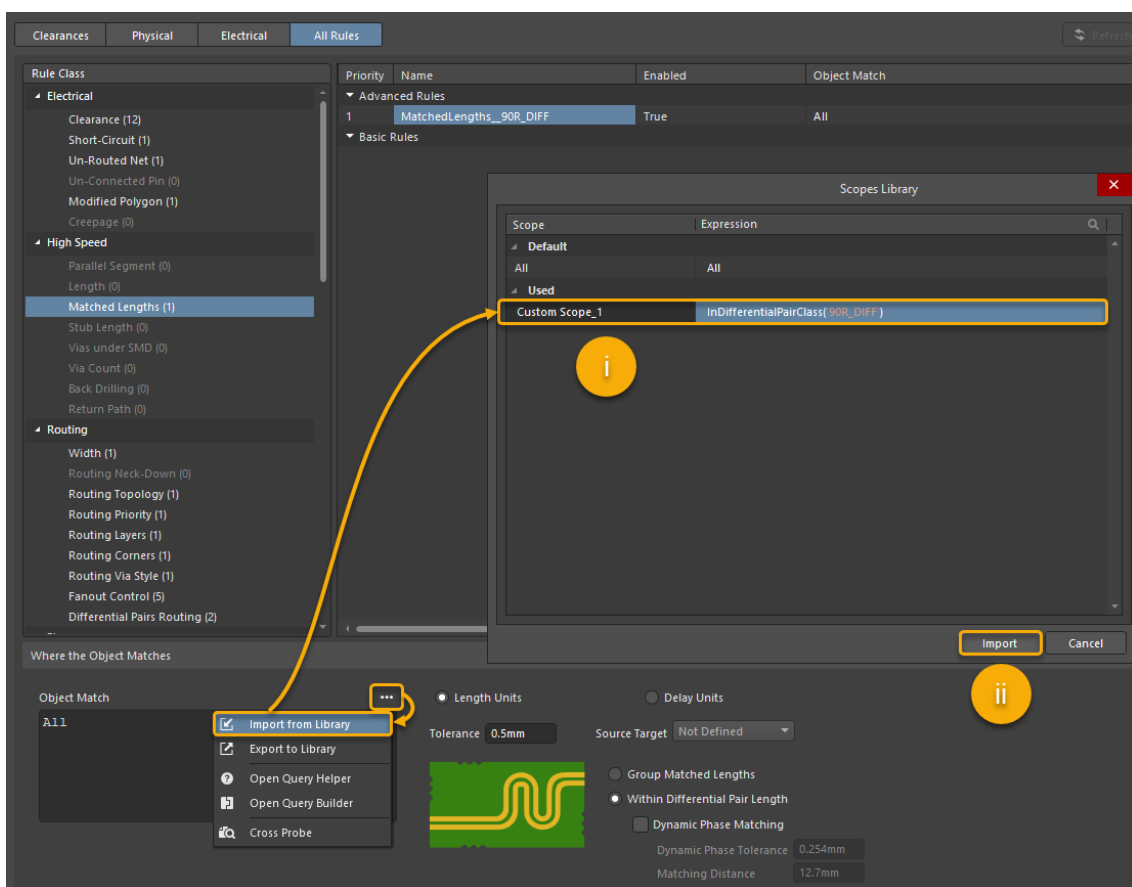

Figure 23. Import from Library
- c) Select the **Ellipsis** button and choose **Import from Library**  **Import from Library**, Figure 23.